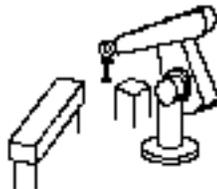

Figure 3. Vise-Safe Location
- 5) Press the "JOINT" button on the PUMA joystick and move the robot to the vise-safe location. (The tool is vertical, the tool tip is midway between the quick change rack and the robot base, and the tool tip is slightly higher than the top of the quick change rack. See Figure 3.)